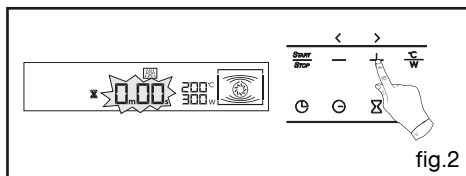

fig.2
- Press the START button a second time to access the cooking time settings (fig.2):